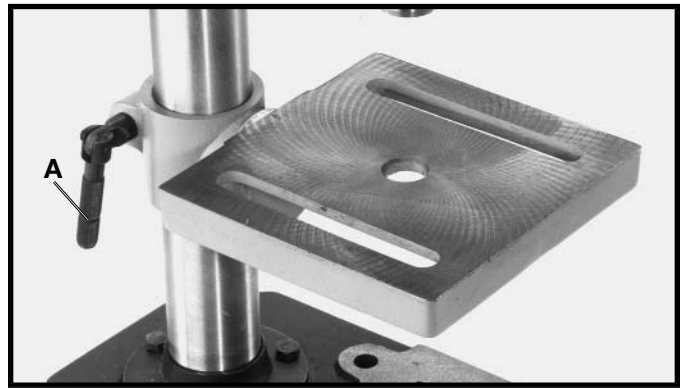

Fig. 17
1. The table can be raised or lowered on the drill press column by loosening the table clamp handle (A) Fig. 17. Move the table to the desired position on the column and tighten table clamp handle (A).